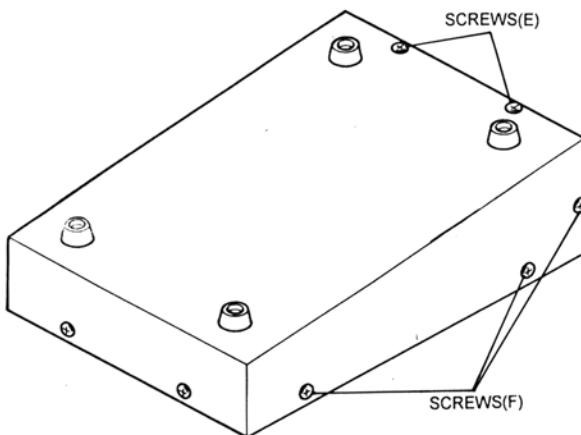
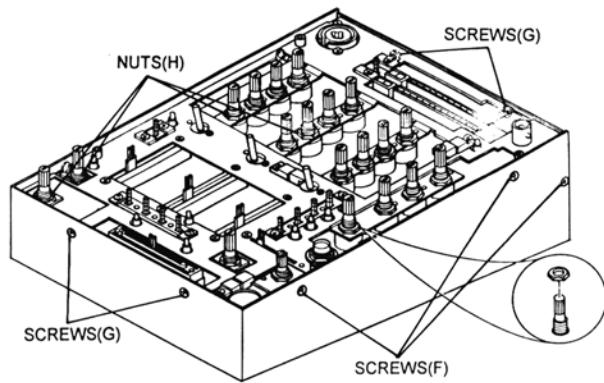

Fig. 2
Fig. 3
- (a) Remove 2 screws(E).(fig.2)
- (b) Remove 6 screw(F).(Fig.2)(Fig.3)
- (c) Remove 4 screws(G).(Fig.3)
- (d) Remove 20 nuts(H).(Fig.3)